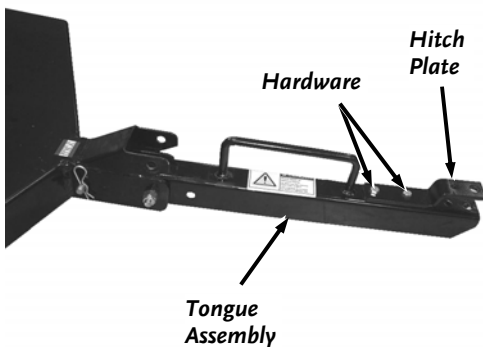

Figure 9
1. Position the Hitch Plate onto the Tongue assembly as shown and secure with two 5/16-18 x 1" Bolts and Nylon Locknuts (**Figure 9**).